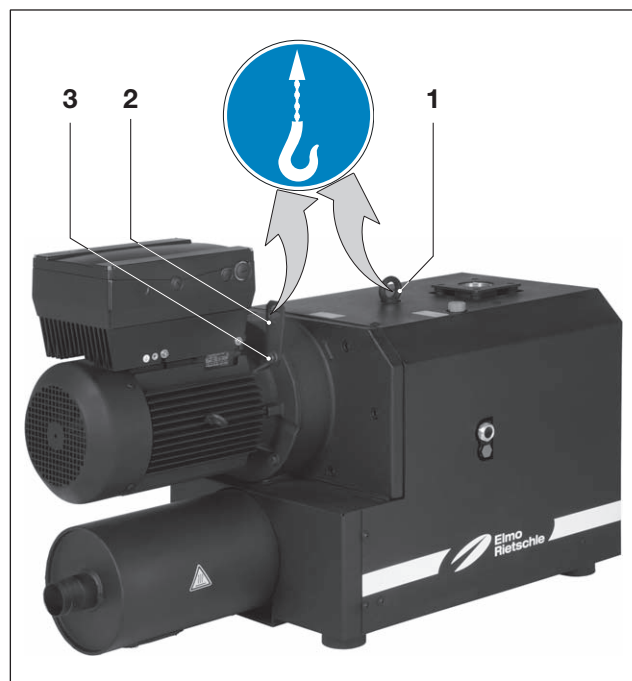

Fig. 1 Lifting and transporting
- a) Tighten the eyebolt (Fig. 1/1) and fixing screw (Fig. 1/3) on the transport shackle (Fig. 1/2) firmly.